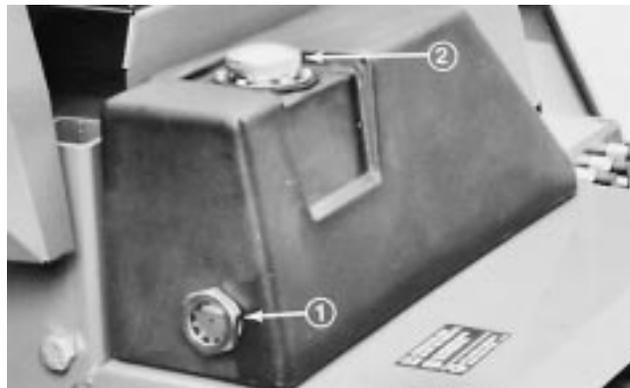

Figure 6
1. Fluid level should be checked daily through sight glass at rear of hydraulic reservoir (Fig. 6). When oil is cold, level will be slightly below center, but should be in the middle of the sight glass when the oil is warm.
2. If oil level is low, add hydraulic oil to the reservoir (Fig. 6); refer to Servicing the Hydraulic System, page 38.